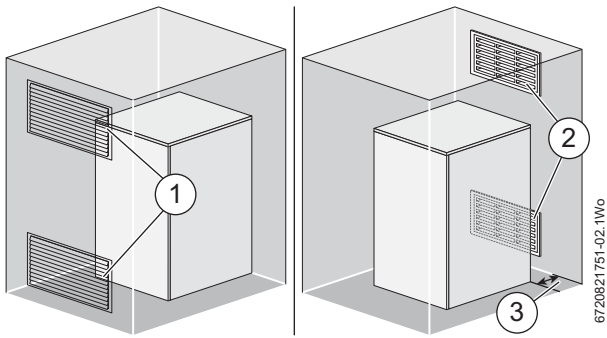

Fig. 20 Venting compartments
- ▶ If the appliance is to be installed in a confined space or compartment two air vents are required, one at high level and one at low level. *The minimum free area of each vent is shown in figure 20 and depends whether the air is taken from another room or from outside the building.*